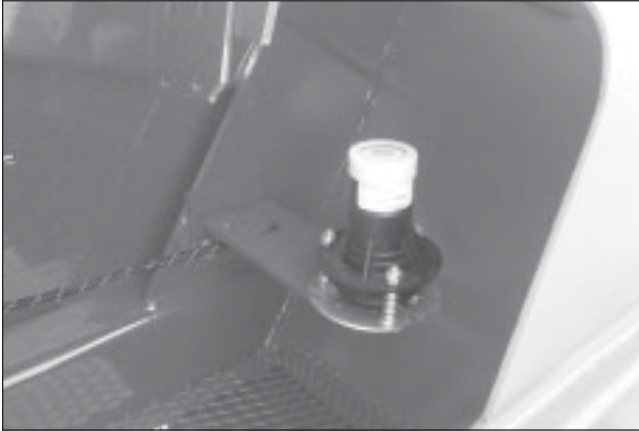

Figure 7.12 – Level Sensor
4. Open the rear door on the left side of the machine to access the level sensor (refer to Figure 7.12).